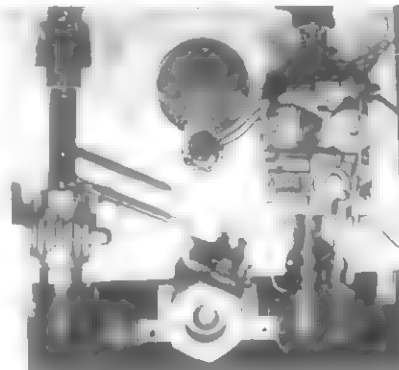

Fig. 6
- 3) Remove the pressure tap plug from the end of the burner manifold. See Figure 6.